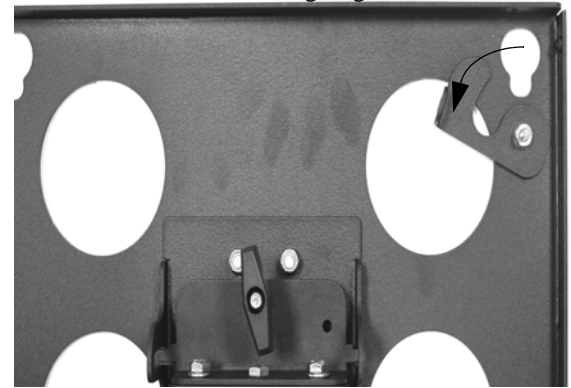

FIGURE 1. LOWER LATCH
2. Before lifting your flat panel display, make sure the latch of the PWS is lowered and will not interfere with mounting the plasma (see Figure 1).